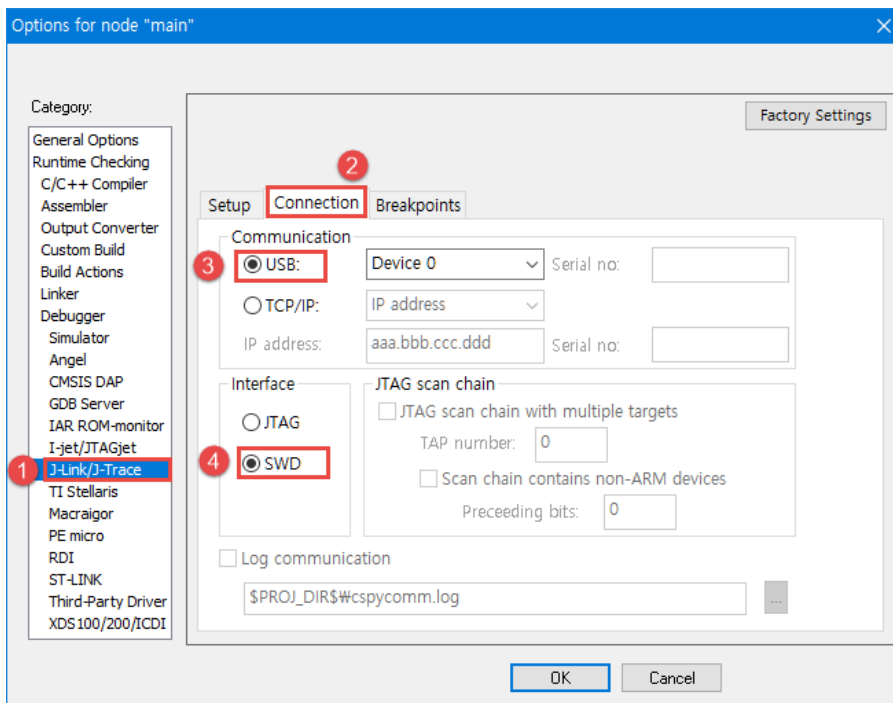

Figure 42: J-Link/J-Trace JTAG/SWD Setting
- k. In the **Category** list, select **J-Link/J-Trace** (1). See Figure 42.